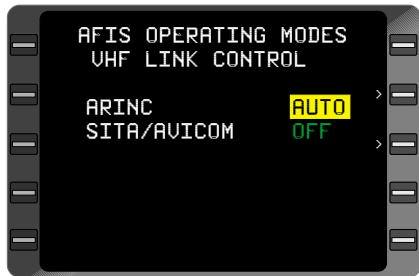

Figure 7-98
- BACK** Key - DEPRESS until **AUTO** appears in cursor. (Figure 7-98)